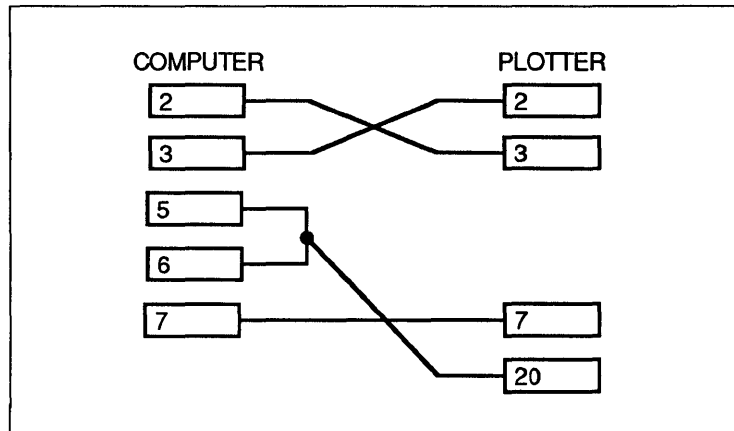
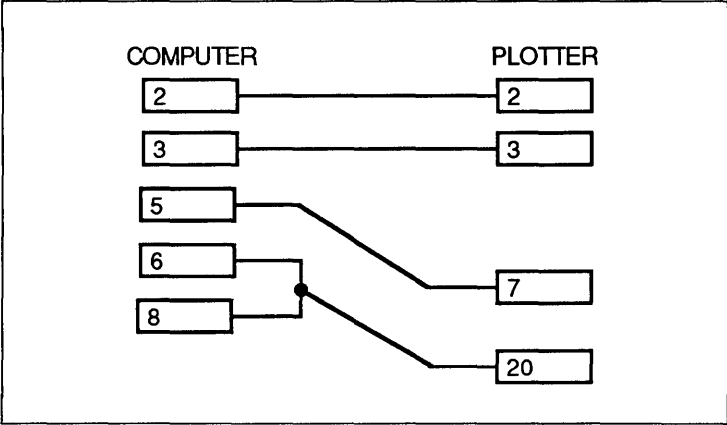
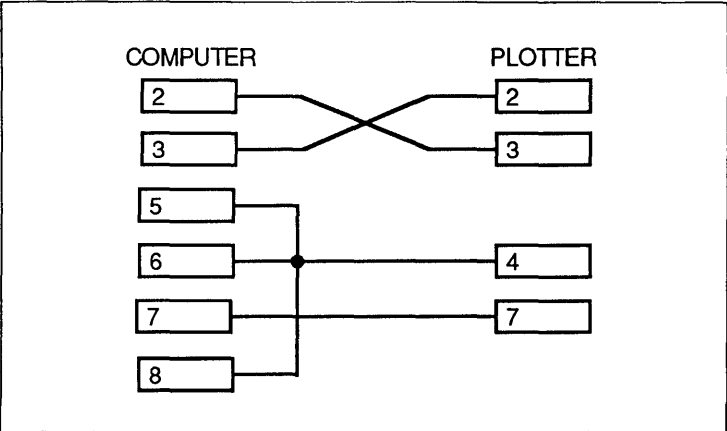

Figure D-1. 25-pin cable wiring diagram.
Figure D-2. 9-pin cable wiring diagram.
Figure D-3. 25-pin cable to IOline plotter.
Figure D-1 is a wiring diagram showing the connections necessary to connect a 25-pin connector to a plotter. Figure D-2 is a wiring diagram showing the connections necessary to connect a 9-pin connector to a plotter. Figure D-3 is a wiring diagram showing the connections necessary for a 25-pin connector to an IOLine plotter.
1. Wire the cable as shown in Figures D-1, D-2, and D-3. If your plotter works with another software package, and does not work with OrCAD, the first item to check is the wiring of your cable. Chances are the other CAD packages only require the TXD and RXD signal lines. OrCAD requires additional connections.